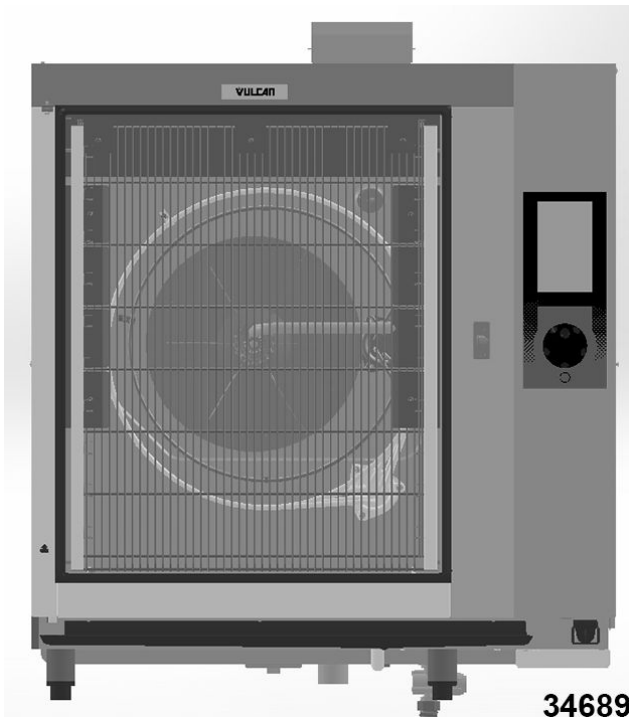

Fig. 23
1. Open door, remove racks in oven cavity and remove baffle by lifting up and out, Fig. 23.